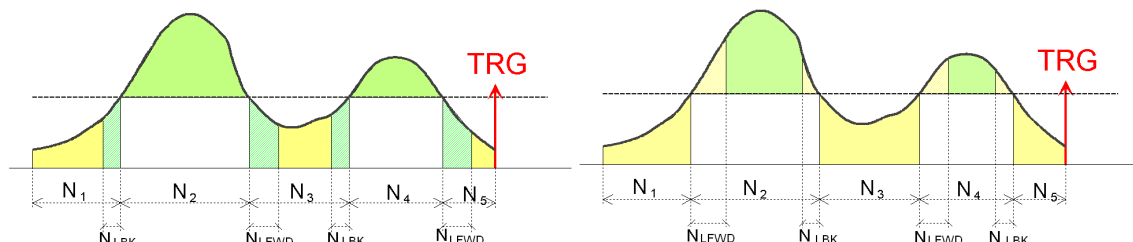

Fig. 7.9: Example of non-overlapping N_{LBK} and N_{LWD} in case of positive logic (left) and negative logic (right).
1. In the simplest case N_{LBK} and N_{LFW} **do not overlap**. Fig. 7.9 reports the case of positive logic on the left, and negative logic on the right. The green areas correspond to the over threshold samples, while the yellow ones correspond to the under threshold samples: